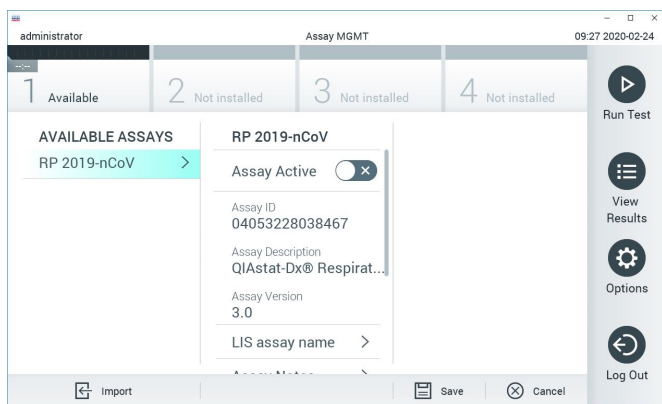

Figure 36. Assay Management screen.
2. Press the **Options** button and then select **Assay Management**. The Assay Management screen appears in the Content area of the display (Figure 36 next page).